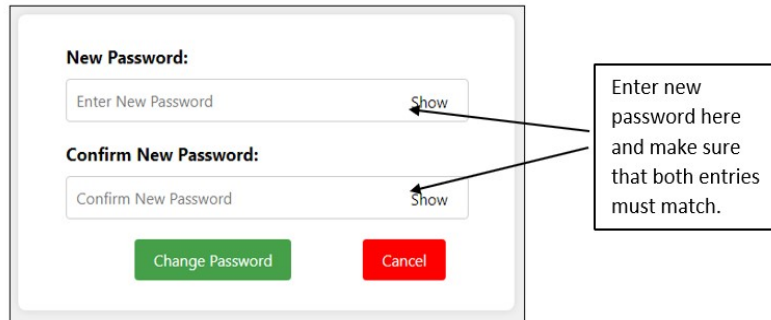

Figure 42: Change Password Page
1. **Navigate to Page:** Navigate to the "Change Password" page from the navigation menu. The page will open as shown in Fig 42.